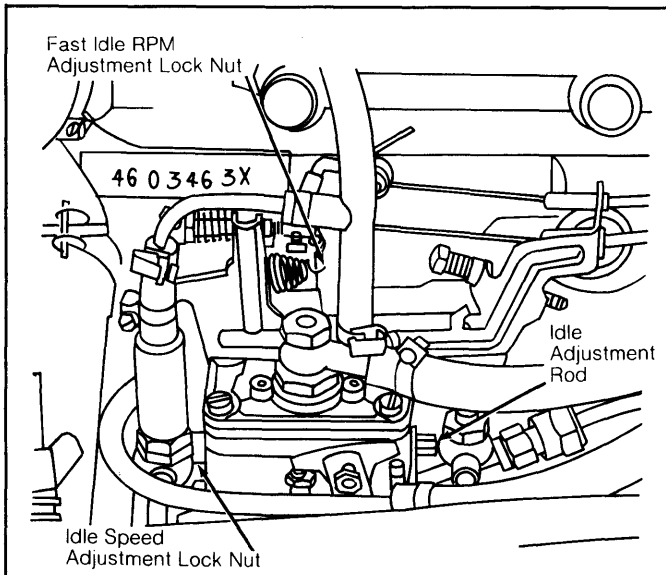

Fig. 3: EP/VM Injection Pump Idle Speed Adjustment
- 1) With engine at normal operating temperature, release accelerator cable. Loosen lock nut on fast idle RPM adjustment screw and loosen screw several turns. See Fig. 3.